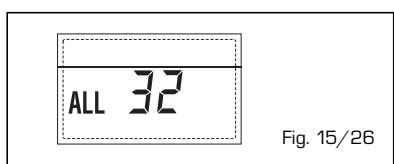

Fig. 15/26
- **RS-485 BOARD COMMUNICATION ANOMALY IN MODBUS MODE "ALL 33" (fig. 15/27)**